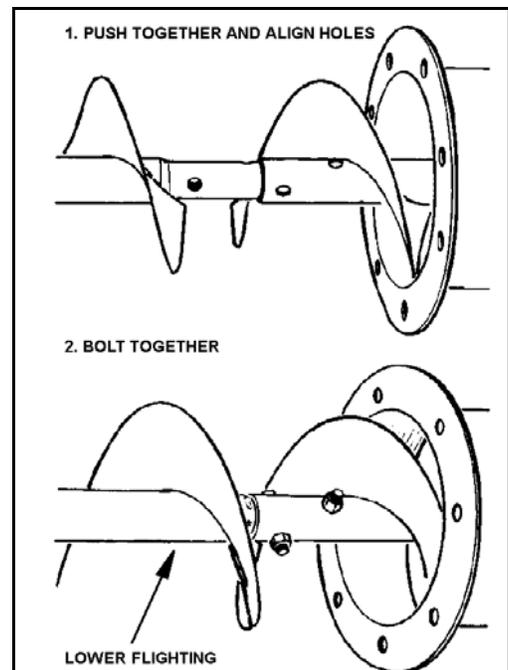

Figure 3.2
4. Slide lower flight shaft onto upper flight shaft until flight ends butt together and flighting spiral matches up. Secure with hardware listed in table below. Repeat, if necessary, for any remaining flight shafts. See Figure 3.2.